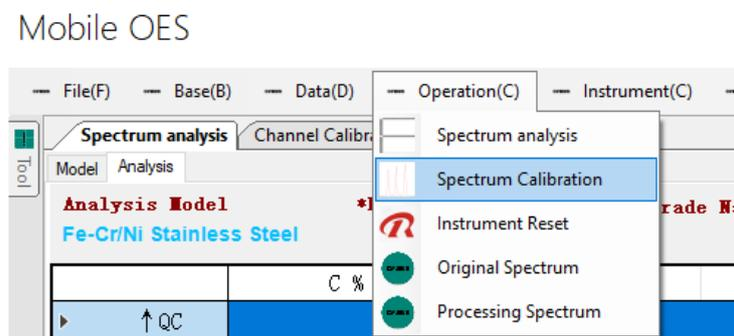

Figure 4-12 Spectrum calibration
Step 1 Click " Spectrum Calibration " in " Operation " in the menu bar of the analysis software, as shown in Figure 4-12: